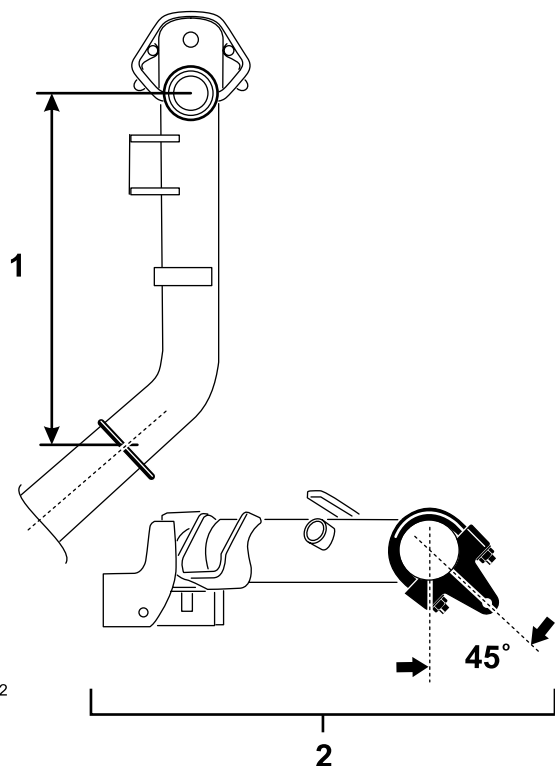

Figure 8
- On lift arms 2 and 3, position the brackets and U-bolts 38 cm (15 inches) behind the center line of the pivot knuckle (Figure 8).